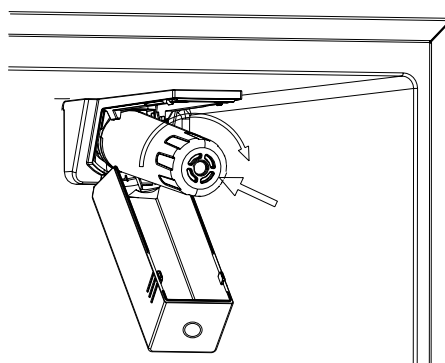

Figure 2
2. After removing the packaging of the provided filter, push it into the filter housing and rotate clockwise until it no longer rotates and is secure (*Figure 2*).